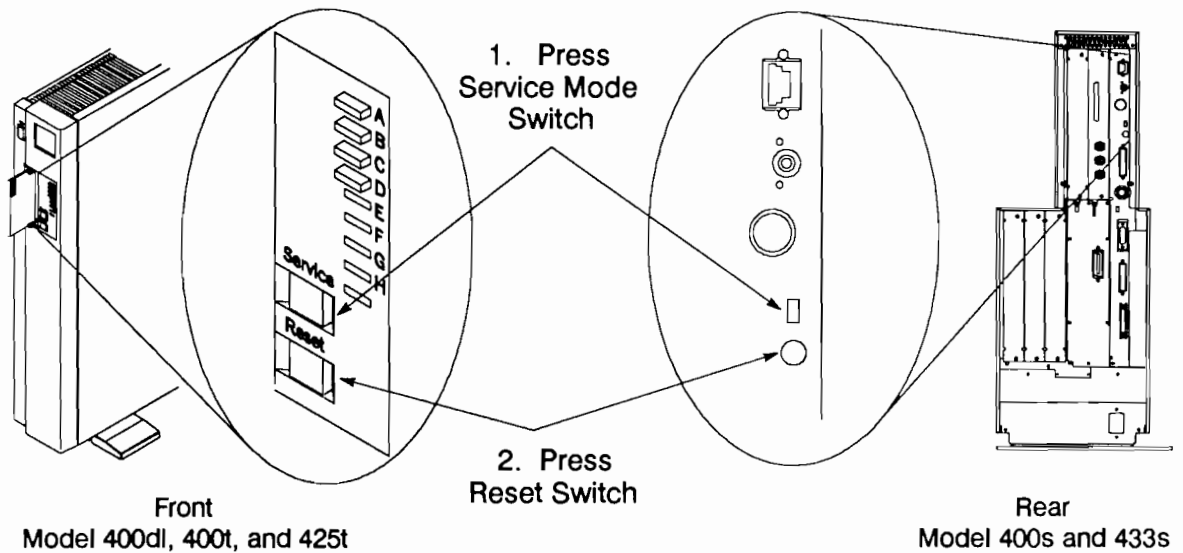

Figure 10-10. Starting Up a Diskless Workstation in Service Mode
1. Before the system finishes the self tests, press the Service mode switch to set the system to Service mode (the Service LED on the system's front panel lights). Then press the Reset switch as shown in Figure 10-10. Press the <RETURN> key until the screen displays the Mnemonic Debugger (MD ">" prompt).